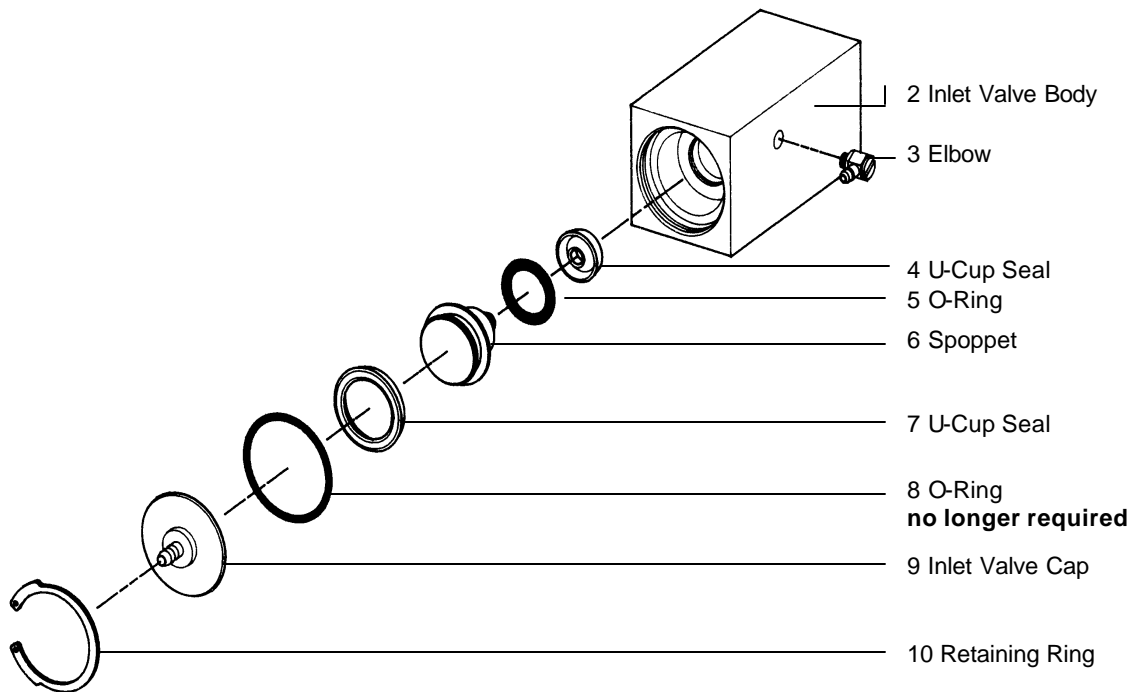

Figure 1 Gas Inlet Valve Assembly
- a. Refer to Figure 1, gas inlet valve assembly, for parts identification.
- b. Use retaining ring pliers to remove the retaining ring (Fig. 1, Item 10).
- c. Remove inlet valve cap (Fig. 1, Item 9).
- d. Remove spopet (Fig. 1, Item 6).
- e. Replace the large and small o-rings and both U cup seals. Lubricate the spopet valve parts (Fig. 1, Items 4, 5, 6, 7 and 8) with a thin coat of Krytox.